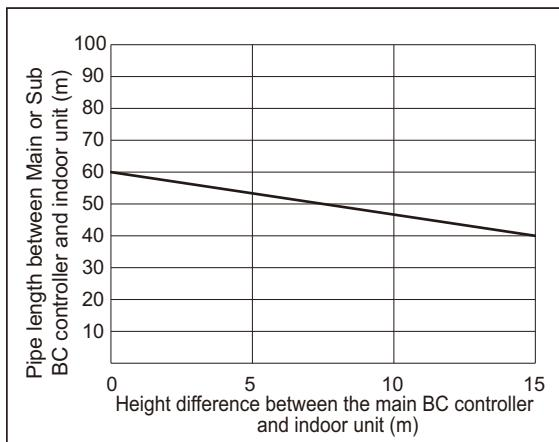

Fig. 2
*2. Details refer to Fig. 2.
*9. When the piping length or the vertical separation exceeds the limit specified in Fig. 2, connect a sub BC to the system.
When using indoor models P/M140 or larger, the restrictions shown in Fig. 2 cannot be exceeded.
- *9. When the piping length or the vertical separation exceeds the limit specified in Fig. 2, connect a sub BC to the system.